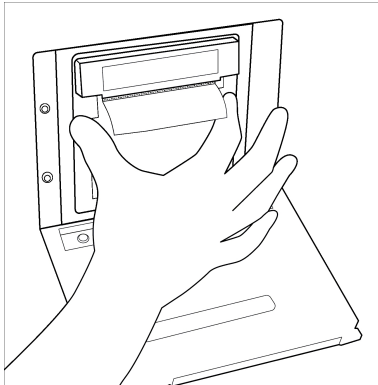

Figure 4-6. New paper roll loaded in the printer
5. Place the new paper roll in the printer with the leading edge spooling from the top of the roll (Figure 4-6).